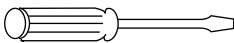

**Figure 5**
*Note - Follow the concrete bag mix, manufacturers recommendations concerning pad preparation, gravel, sand, etc. Figure 5.*